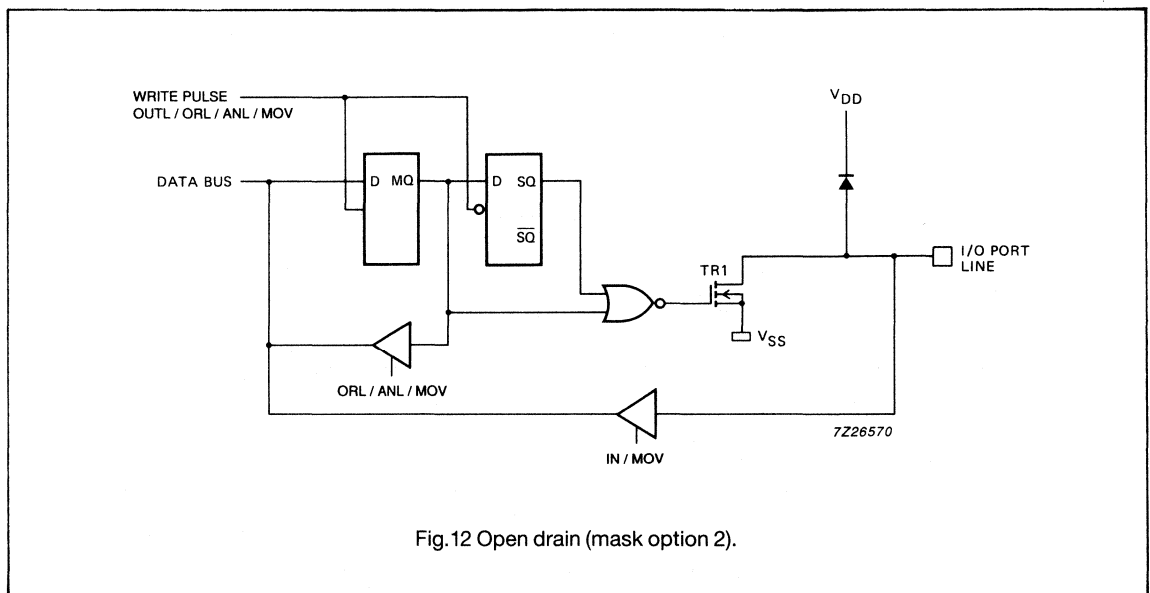

Fig.12 Open drain (mask option 2).
- Option 2 Open Drain: quasi-bidirectional I/O with only an N-channel open drain output. Application as an output requires the connection of an external pull-up resistor (Fig.12). If unused, an option 2 output should be tied to V_{SS} to prevent undesirable current flow through input stages.